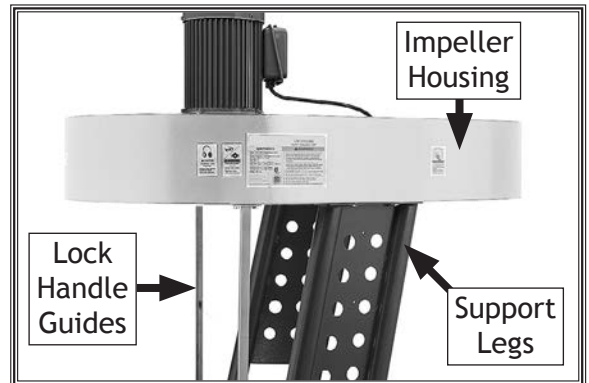

Figure 13. Impeller housing positioned on support legs and lock handle guides.
- With help of two assistants, lift impeller housing and onto support legs and lock handle guides (see **Figure 13**).